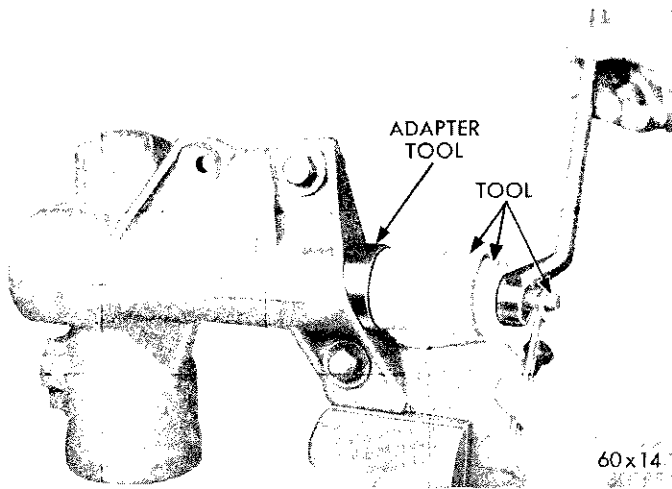

Fig. 38—Removing Housing Lower Bushing
(4) If necessary to remove the housing bearings, use puller Tool C-3332 with adapter SP-3062 (Fig. 38) as follows: